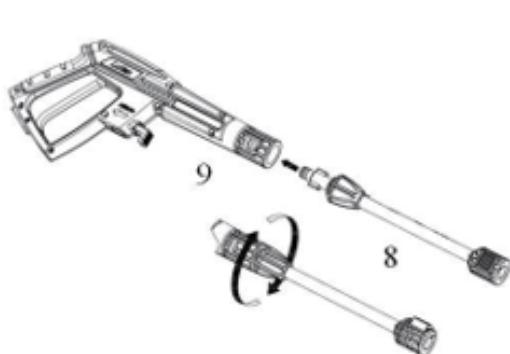

Fig. 1
- Insert the extension tube (8) into the high-pressure gun (9). Press the extension tube (8) and turn it clockwise onto the high-pressure gun (9) until it is hand-firm to lock. If the parts are properly assembled, you cannot separate the two components by simply pulling the high-
pressure gun (9). Use the cleaning nozzle in the same way, depending on which accessory is best suited for the surface to be cleaned. Only one accessory can be inserted into the high-pressure gun at a time. All accessories must be properly inserted into the high-pressure gun (Fig. 1).